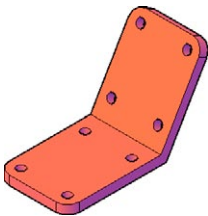

**Fig. 17.5** First example – Changing UCS planes – pline for extrusion
1. Set **UCSFOLLOW** to 1 (ON).
3. Construct the pline outline (Fig. 17.5) and extrude to 120 high.